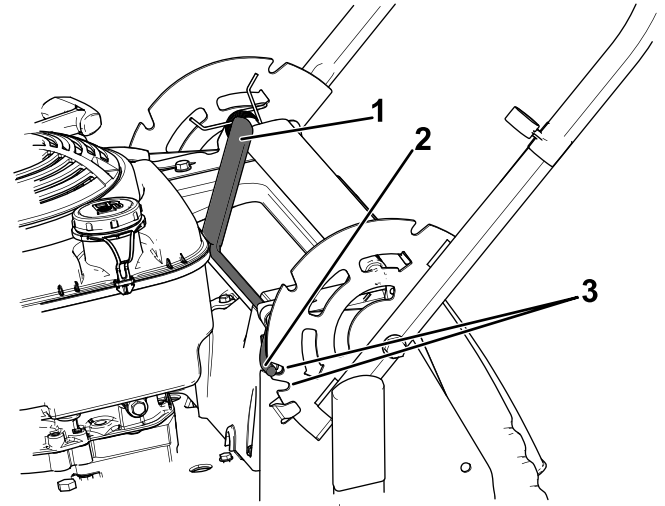

Figure 14
1. Lift the handle slightly and pull the handle-lock lever rearward to disengage the handle-lock pins (Figure 14).
2. Rotate the handle and align the desired notch in the handle bracket to the handle-lock pins; refer to Figure 14.